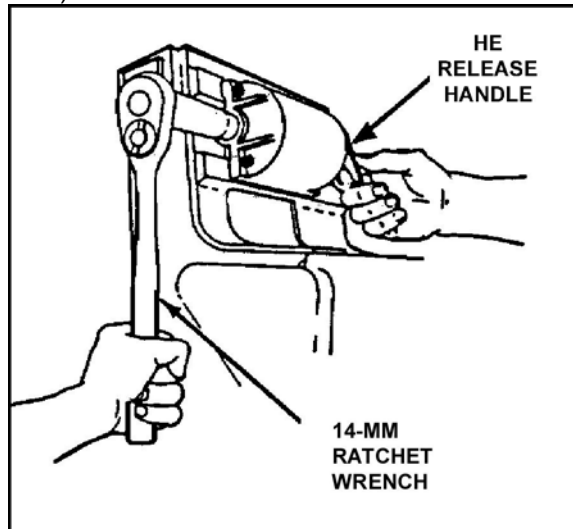

Figure 8. HE release handle.
- (1) Put the 14-mm ratchet wrench on the HE ammunition forwarder, with the wrench handle to the left.
- (2) Turn the 14-mm ratchet wrench to move the ammunition up the chute slightly. Put upward pressure on the wrench and pull the HE release handle to the right.
- (3) Hold the HE release handle to the right while moving the wrench to the straight down position (Figure 8).